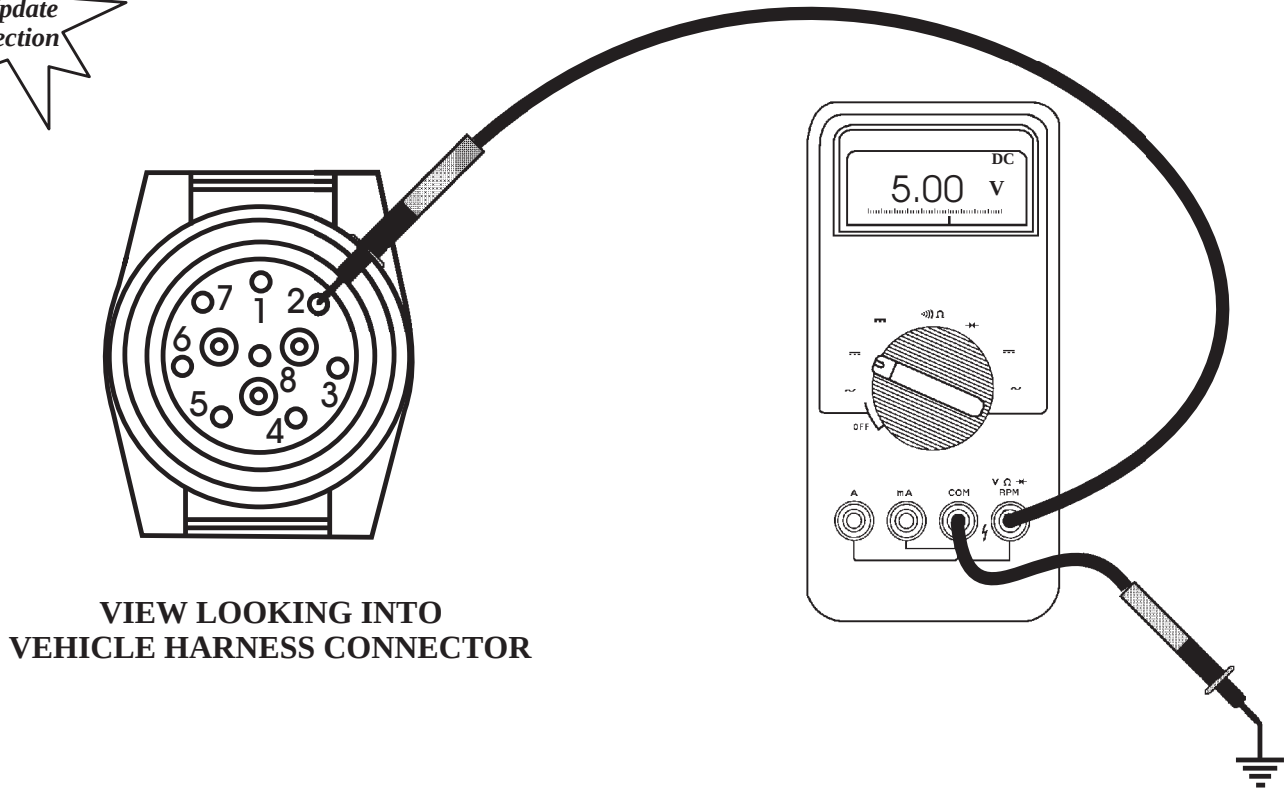

Figure 11
- (d)** Plug the transmission control module connector back into the computer, and with the engine off and ignition switch in the ON position, check for 5 volts at cavity number 2 in the vehicle harness connector, as shown in Figure 11. If no voltage is seen, unplug the transmission control module connector and test for continuity between cavity C10 at the transmission control module connector and terminal number 2 at the vehicle harness connector, as shown in Figure 12. If 5 ohms or less is indicated, the computer will need to be replaced. If an open circuit is indicated, repair or replace the broken wire between C10 and terminal 2. **Note: For 1996 and later models, see Page 120.**